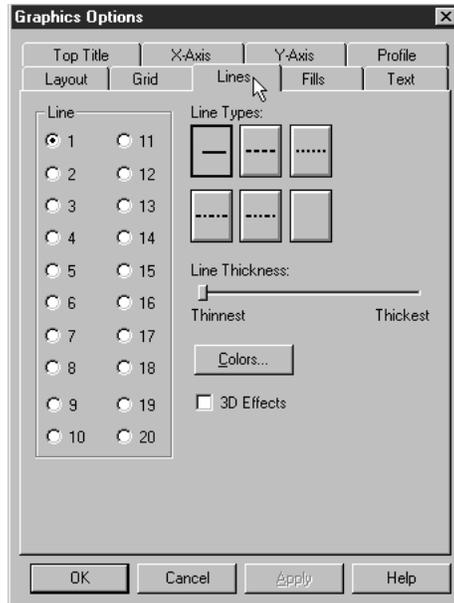

Figure 5-8. Line Tab Page
3. Click the left button on the graph, the right to display the pop-up menu, then the left on Graphics Options to display the Graphics Options dialog box opened to the Line tab page (see Figure 5-8).